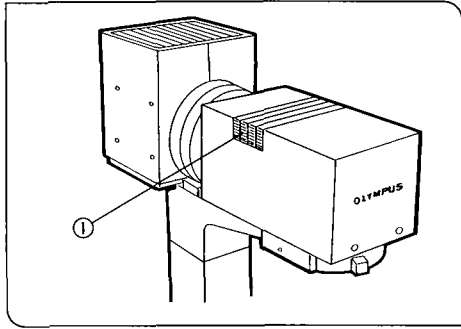

Fig. 76
1. Place a finger on the milled section ① of the filter holder and lift the filter holder. (Fig. 76)